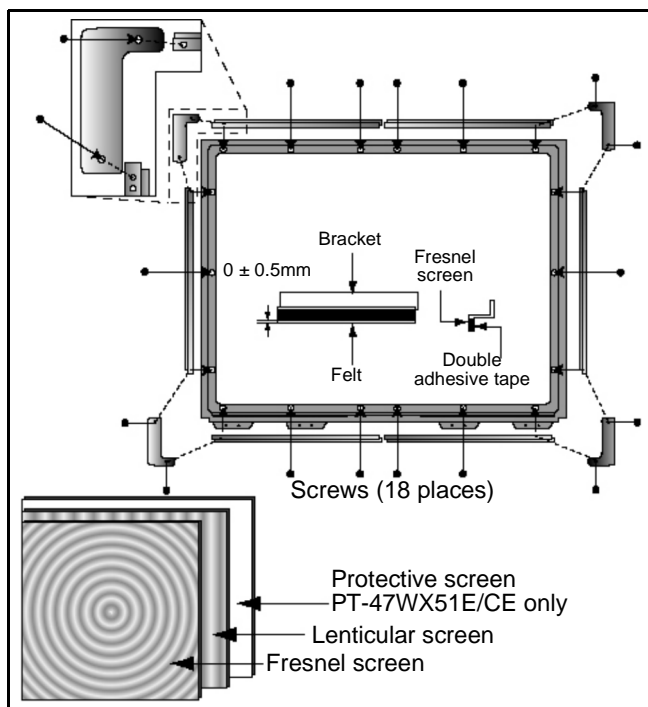

Figure 10. Screen Assembly
Screen Assembly (Fig. 10)
4. Note exact orientation and order of each screen. The orientation and order of the screens is critical for displaying pictures properly. Detailed screen assembly can be seen in Fig.10.
Note: Assemble with screws in the order as indicated in Fig. 10 and tighten with same torque.